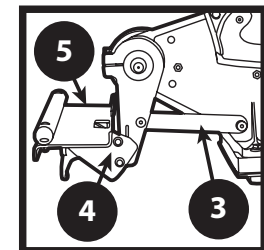

FIGURE 7
5. Using a 7/16" wrench and a 5/32" Allen wrench, remove bolt and attach the support bar to the Table Support Arm (Figure 7).
7. Using a 3/16" Allen wrench, remove two screws from the table support arm mounting block and attach mower blade support table and tighten securely, making sure to place the washer on the outside of the bracket on the mower blade support table (Figure 7).